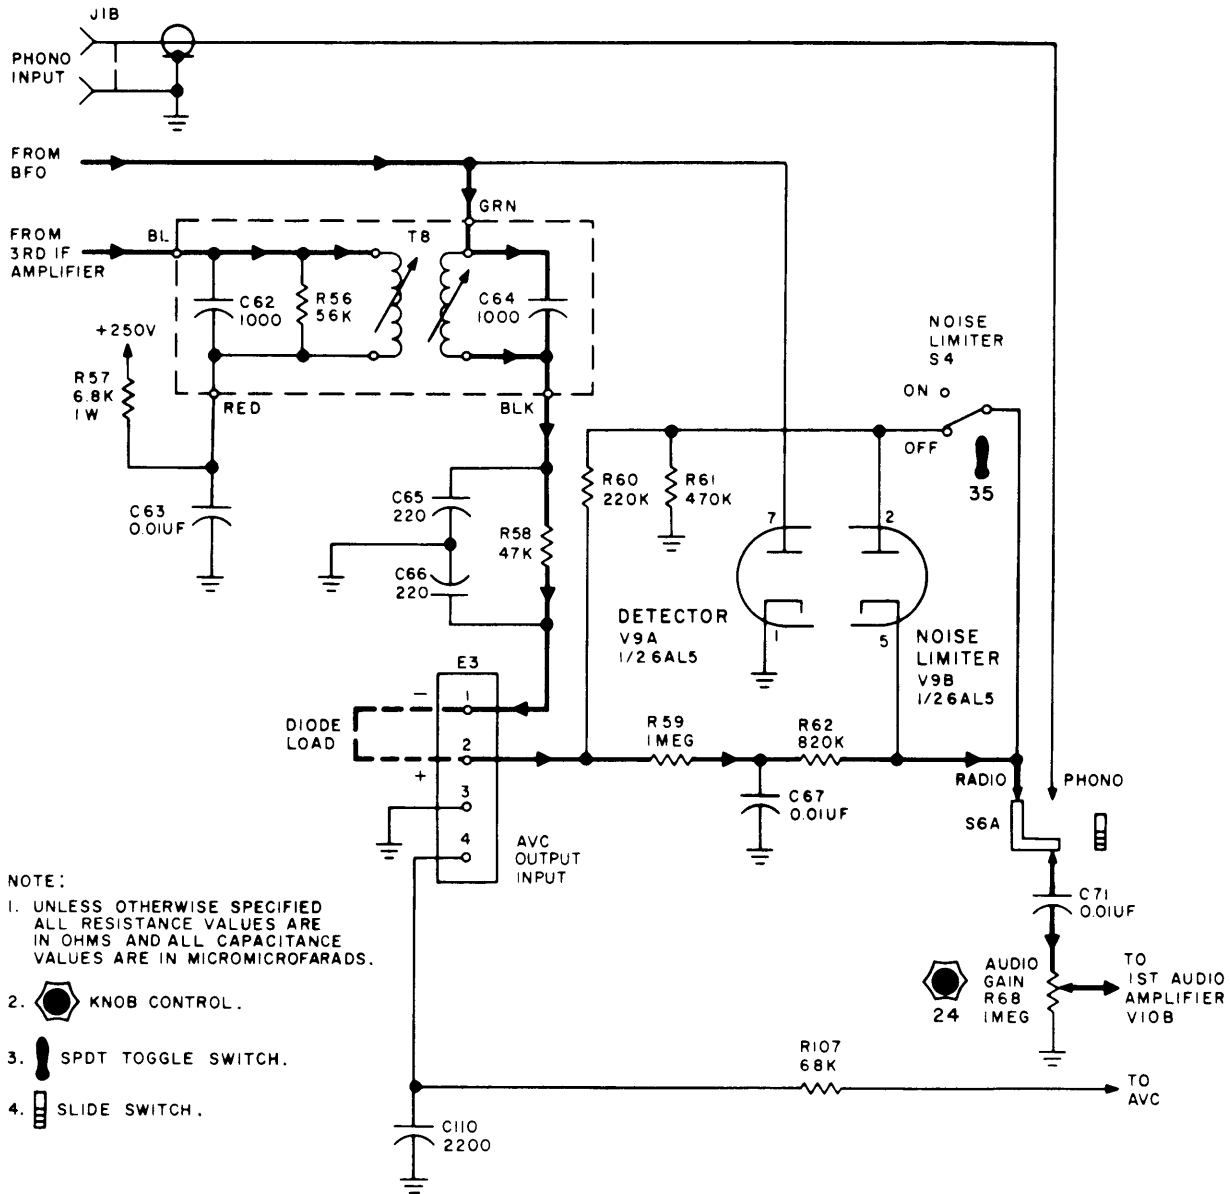
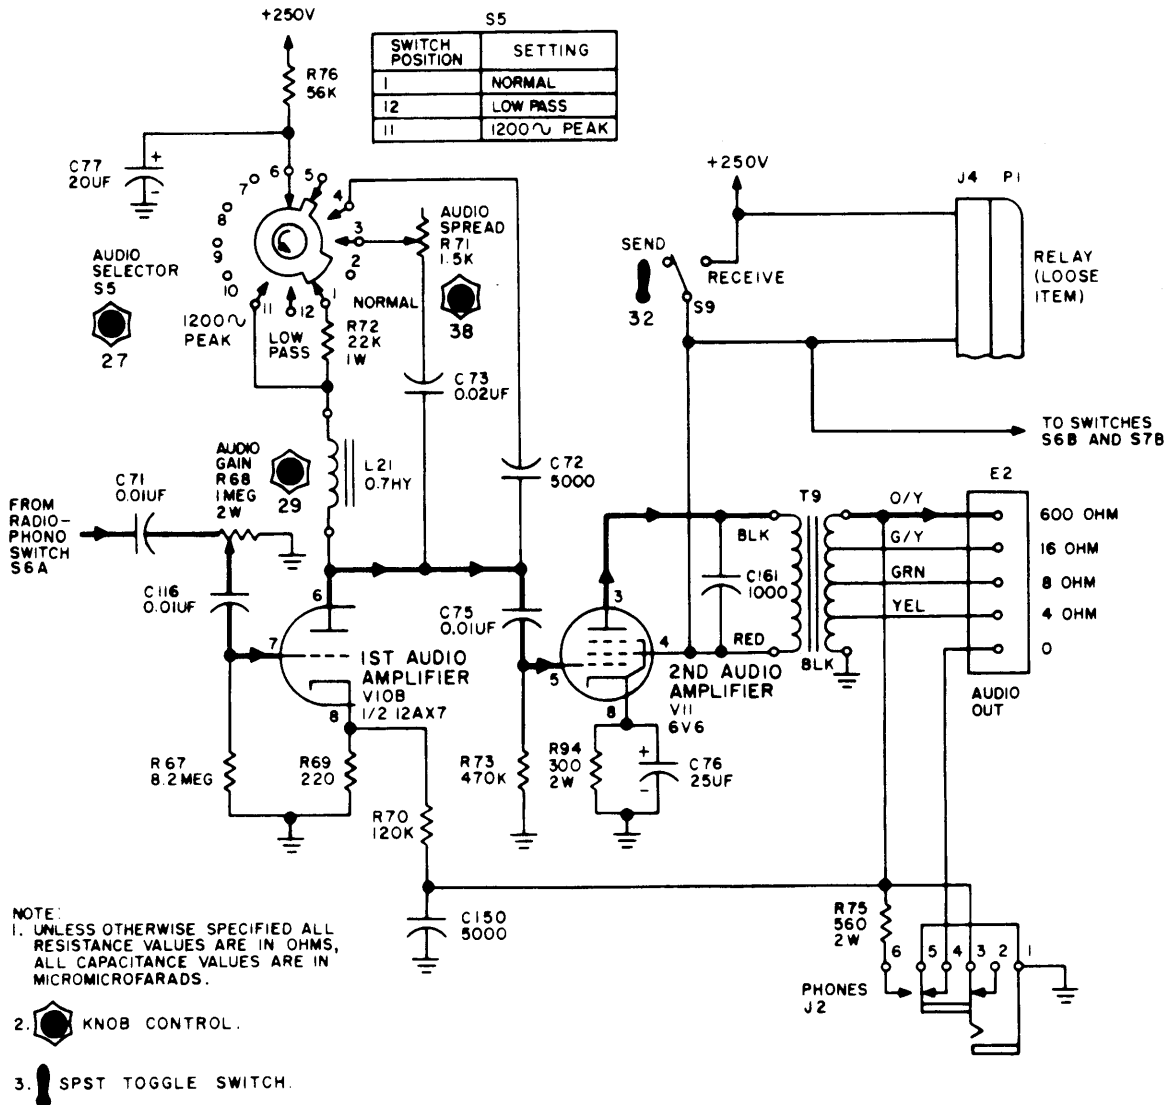

Figure 4-8. Schematic Diagram, GPR-90RXD, Detector and Noise Limiter
Figure 4-9. Schematic Diagram, GPR-90RXD, Audio Amplifier
h. DETECTOR AND NOISE LIMITER. (See figure 4-8.) - The output of the third IF transformer is coupled through IF transformer T8 to detector V9A. The IF signal is demodulated and filtered; the remaining audio information is applied to audio amplifier V10B.
i. **AUDIO AMPLIFIERS.** (See figure 4-9.) - Triode V10B is the first audio amplifier. Three inputs may be applied to the grid of this amplifier. With RADIO-PHONO switch S6 in the PHONO position, the output of a high impedance phonograph cartridge may be connected to PHONO INPUT jack J1 and the audio amplifier may be utilized. (See figure 4-8.) For full output, 0.15 volt is required. When RADIO-PHONO switch S6 is set to the RADIO position, the GPR-90RXD will operate normally. When SSB switch S7 is set to the ON position, the audio output of the detector is shorted to ground. (For SSB operation, audio signals can be supplied by a TMC Model MSR-6, Single Sideband Converter.)
By means of AUDIO SELECTOR switch S5 and AUDIO SPREAD control R71, the response of the audio amplifier may be controlled from an essentially flat response to a 1200-cps wide response (at -10 db) at a center frequency of approximately 1100 cps. (See figure 4-9.)